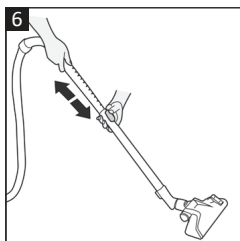

Fig. 6
- Slide the Telescopic tube release button (20) in the direction of the arrow marked on the button and hold it while you adjust the telescopic tube to the desired length (Fig. 6).